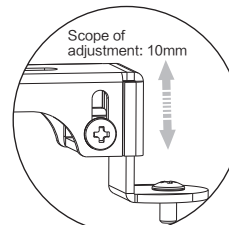

figure 16
4. Rotate the adjustable screw (4-4) for adjusting the height of installation arms (4-3) if the installation holes are not at the same level as figure 16.